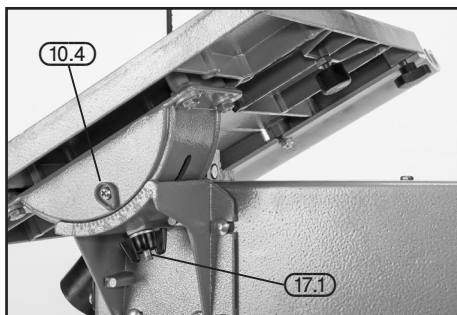

FIG. 8
9.2 TILTING THE TABLE – FIG. 8